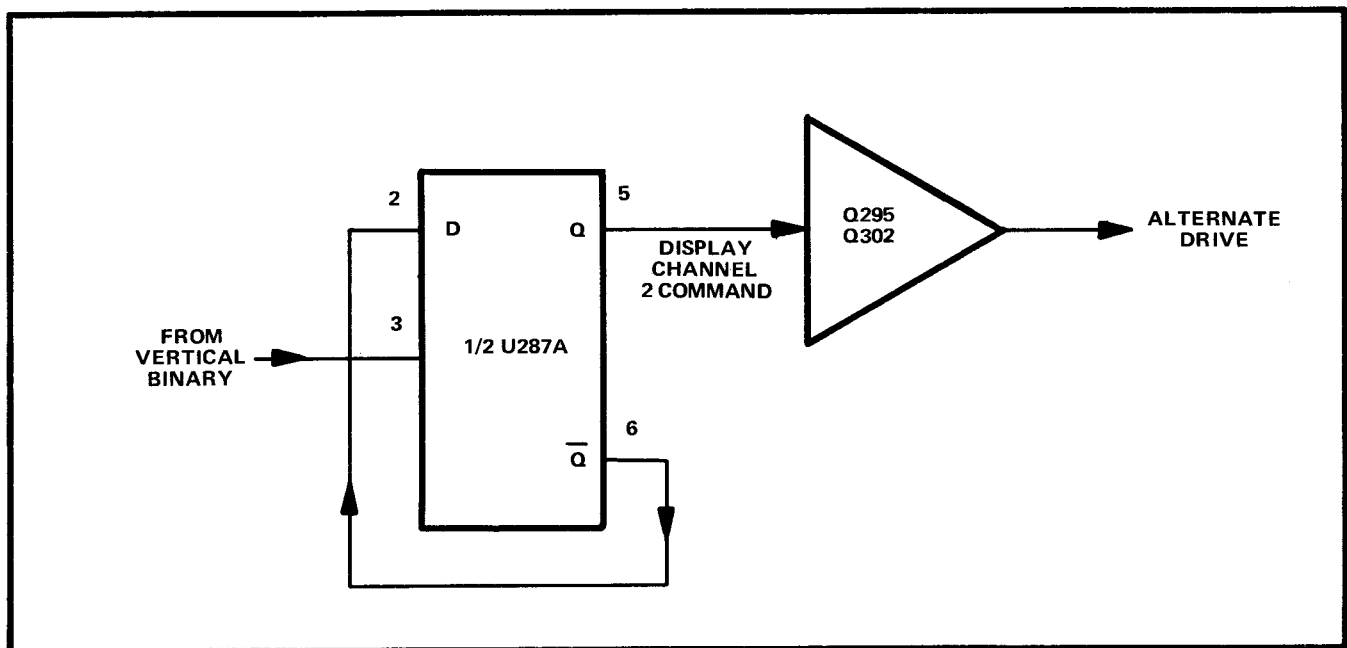

Fig. 3-11. Plug-In binary stage.
**Plug-In Binary.** The Plug-In Binary stage consists of U287A, which is connected as a triggered flip-flop with direct-set input. The trigger input for this stage is the Display Right Command from the Vertical Binary stage. When the VERT MODE switch is set to ALT, the repetition rate of the Display Channel 2 Command output of this stage is one-fourth of the Sweep Hold-off input (see waveforms in Fig. 3-10). For any position of the VERT MODE switch except ALT, the repetition rate of the output signal from this stage is one-half of the Sweep Hold-off input. A logic diagram of the Plug-In Binary stage is shown in Fig. 3-11.